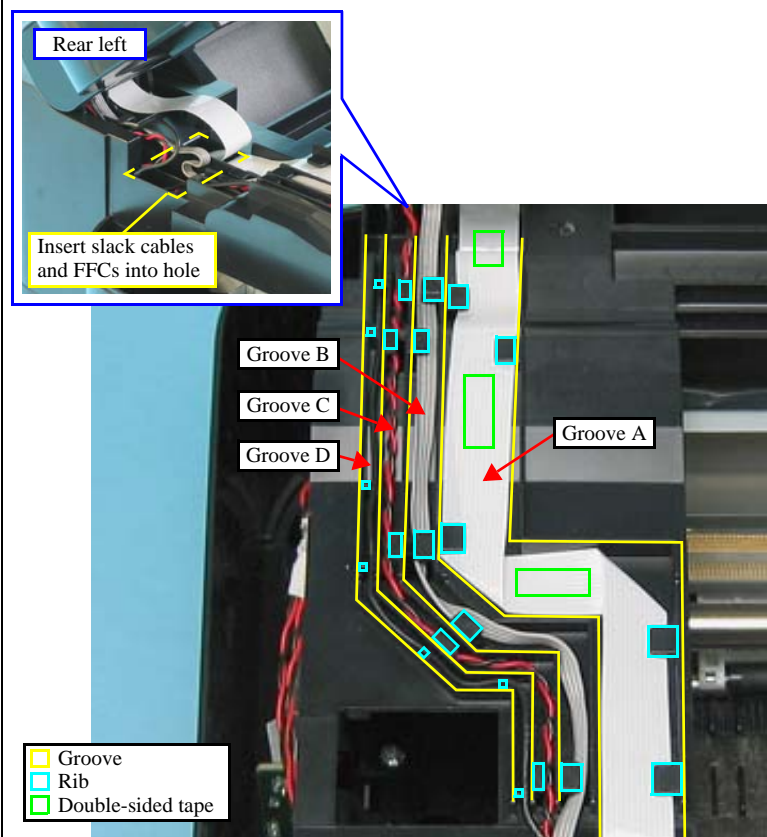

Figure 8-5. Routing the Cables
- After routing the cables from the Main Board side, insert the slack cables and FFCs into the hole on the Middle Housing. (See Figure 8-5.)